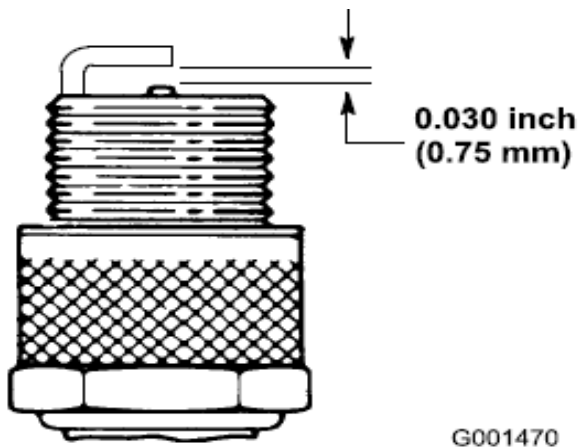

Figure 18
3. Set air gap at 0.028-0.032 inch (Figure 18). Install correctly gapped spark plug and tighten firmly to 17 ft.-lb (23 N-m).